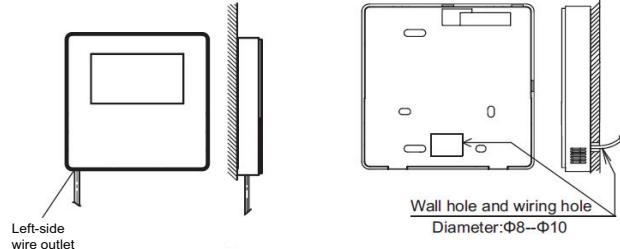

**Fig. 1 — Opening Back Mounting Plate**
5. Insert a flat-head screwdriver into the slots provided on the bottom of the controller to pop open the back mounting plate. See Fig. 1.